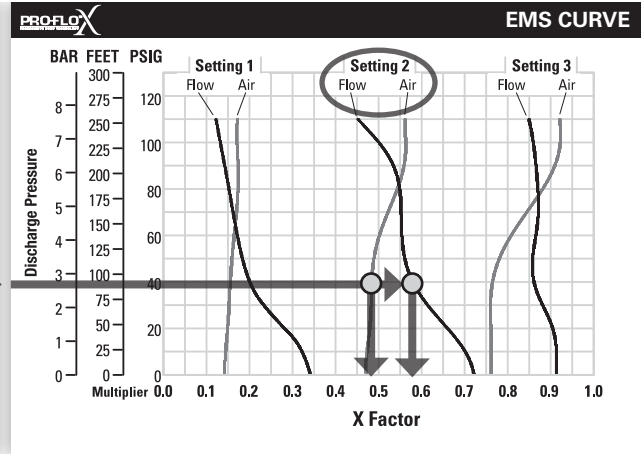

Figure 2
FIGURE 2 When the pressurized diaphragm, diaphragm A, reaches the limit of its discharge stroke, the air valve redirects pressurized air to the back side of diaphragm B. The pressurized air forces diaphragm B away from the center while pulling diaphragm A to the center. Diaphragm B is now on its suction stroke. Diaphragm B forces the inlet valve ball onto its seat due to the hydraulic forces developed in the liquid chamber and manifold of the pump. These same hydraulic forces lift the discharge valve ball off its seat, forcing fluid to flow through the pump discharge. The movement of diaphragm A toward the center of the pump creates a vacuum within liquid chamber A. Atmospheric pressure forces fluid into the inlet manifold of the pump. The inlet valve ball is forced off its seat allowing the fluid being pumped to fill the liquid chamber.
Step 2: Determining flow and air X Factors. Locate your discharge pressure (40 psig) on the vertical axis of the EMS curve (Figure 2). Follow along the 2.8 bar (40 psig) horizontal line until intersecting both flow and air curves for your desired EMS setting (in this case, setting 2). Mark the points where the EMS curves intersect the horizontal discharge pressure line. After locating your EMS points on the EMS